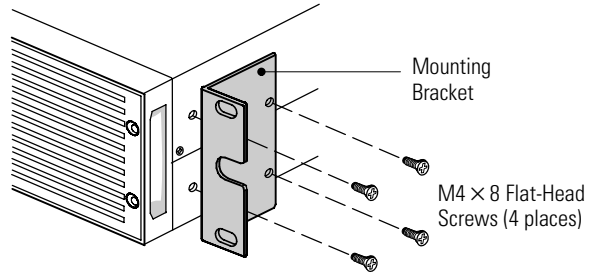

Figure 6. Installing the Mounting Brackets (Forward Position Shown)
9. Align the mounting brackets with the screw holes on each side of the UPS and secure with the supplied M4 × 8 flat-head screws (see Figure 6).